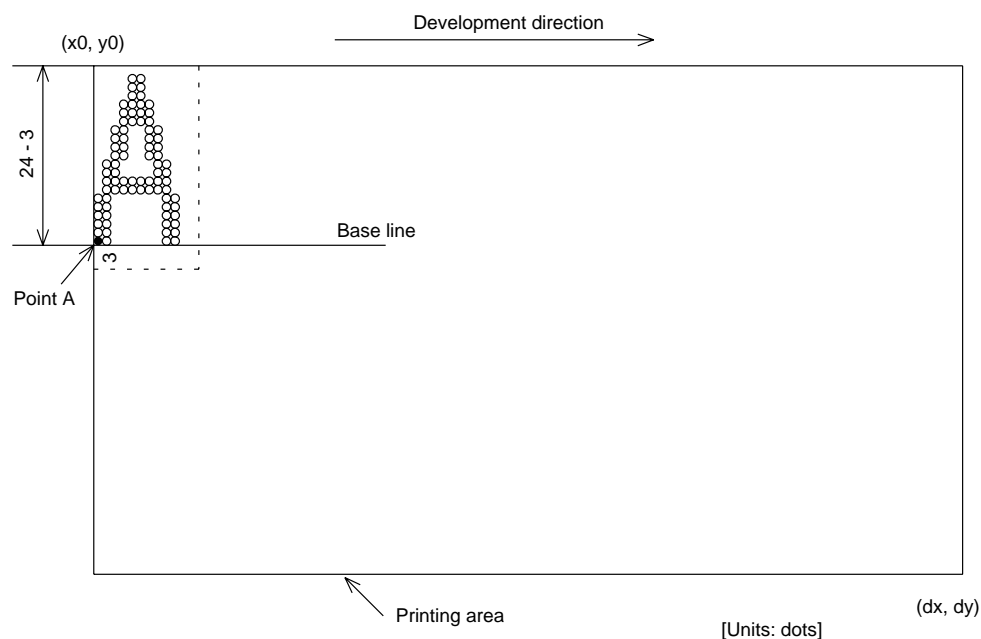

Figure 3.12.2 Character Data Developing Position
- 2) When the printer receives print data after **ESC W** sets the printable area and **ESC T** sets the printing direction, the print data is formatted within the printable area so that point A in Figure 3.12.2 is at the beginning of the printable area as a default value. (When a character is printed, point A is the baseline.)